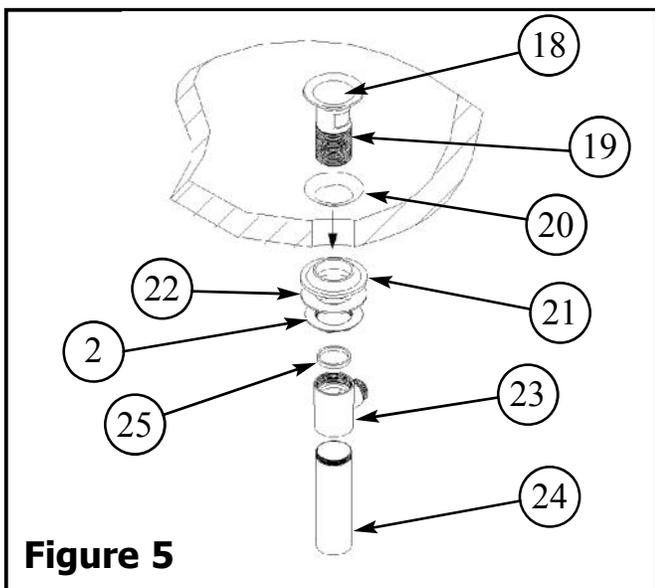

Figure 5
6. Remove drain PLUG (18) from FLANGE (19). Place FLANGE (19) and white WASHER (20) through sink drain opening. (Clear silicone may be used in place of white washer.) From bottom side of sink, place cone shaped rubber WASHER (21) onto FLANGE (19) and slide up against sink bottom. *Note: Cone portion of washer should face upward.* Next slide on clear flat WASHER (22) and secure with flange NUT (2). Place clear WASHER (25) into drain BODY (23) and tighten to FLANGE (19). Apply thread sealant to TAILPIECE (24) and attach to drain BODY (23). Attach TAILPIECE (24) to p-trap drain, not included. See Figure 5.